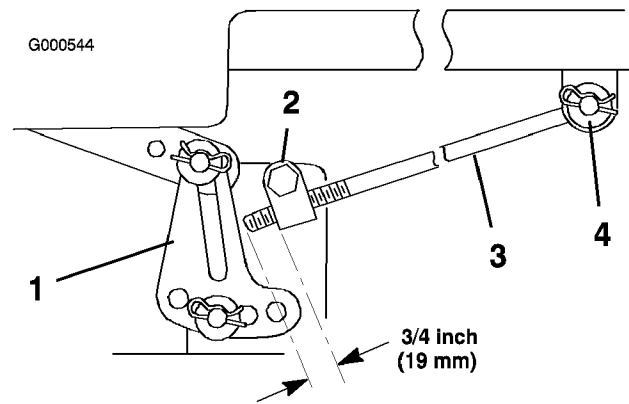

Figure 43
- Measure the length of the rod extending out of the adjusting block on the sides of the chassis (Figure 43).
- If the rod length is **not** a 3/4 inch (19 mm), remove the hairpin cotter and washer from the end of the adjusting rod (Figure 43) and turn the rod until the 3/4 inch (19 mm) dimension is obtained.